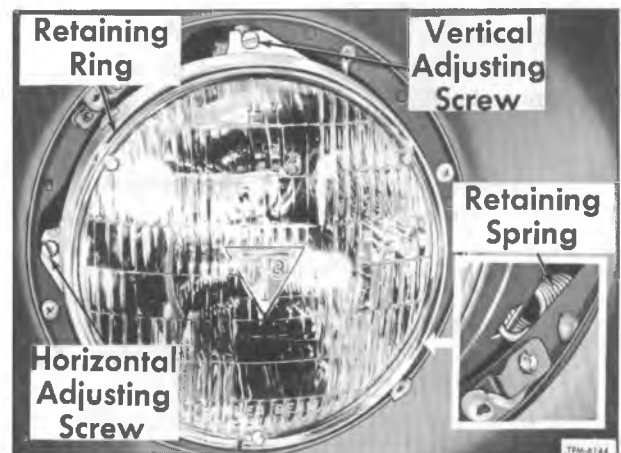

Figure 14—Single Sealed-Beam Unit Adjustment Points (Typical)
Headlight beam adjustment requirements will vary on different vehicles due to size and distribution of load, type of standard or optional suspension, size of tires, tire pressures, and other factors. Average requirements are for the high intensity zone of the high beams to be straight ahead and two inches below the headlight level at 25 feet. Low beam of all 7-inch units should be adjusted so the high intensity zone of the light beam is just to the right of the headlight center and just below the headlight level at 25 feet. To obtain correct adjustment, beam adjustment should be made with the vehicle loaded with the normal average load it will be carrying during the majority of its operation. Tires should be uniformly inflated to recommended pressure when adjusting headlight beams. Beam adjusting screws are identified in figure 14.
2. Remove screws which attach retaining ring to mounting ring, then use a hooked tool to release retaining spring from slot in retaining ring (inset, fig. 14).
3. Using a hooked tool, pull out on retaining spring and engage in slot near bottom of retaining ring (inset, fig. 14).